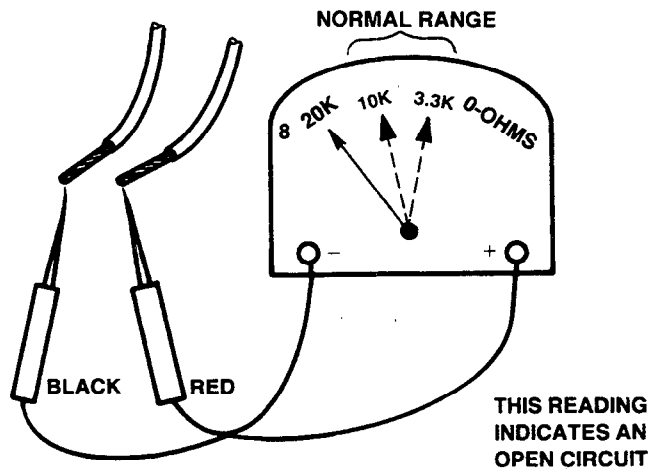
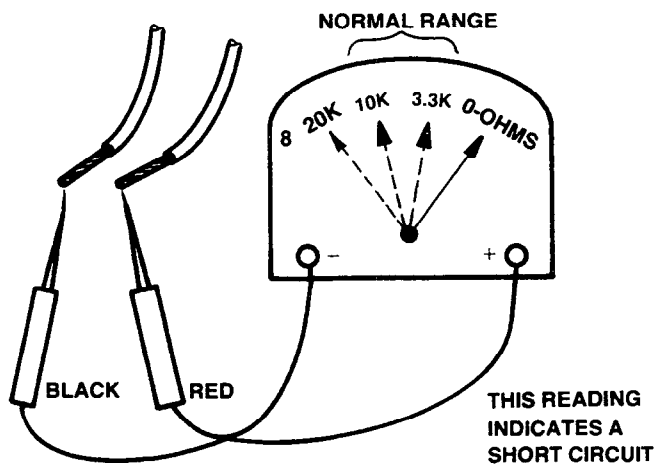

FIGURE 11
FIGURE 12
If reading indicates no continuity (open circuit, see Fig. 11) or a short circuit (see Fig. 12), locate and correct open/short in circuit.
- C. Set volt-ohmmeter to OHMS X 10 and place meter probes across circuit being tested. Reading should indicate an open circuit (Fig. 11).
If reading indicates a short circuit (Fig. 12) or something less than infinity (∞), check circuit wiring.